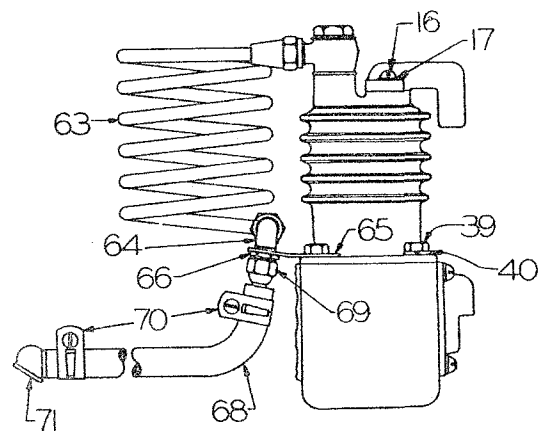

Figure 104. Compressor Hose
To fill the crank case with oil, remove one cap screw (39), Fig. 104, and pour oil thru the bolt hole until excess oil flows out of the port in breather (36), Fig. 105.